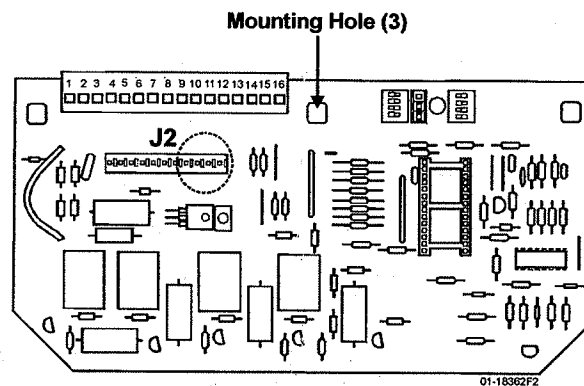

Figure 3: S3 Board
- 3 **SL580 Operators:** At the S3 Board mounting hole locations (see Figure 3), remove and retain the three (3) screws securing the board to the control box. Lift board out of control box.
- 9 **SL580 Operators:** Re-install S3 Board inside control box and secure with three (3) screws at the board's mounting hold locations (see Figure 3).